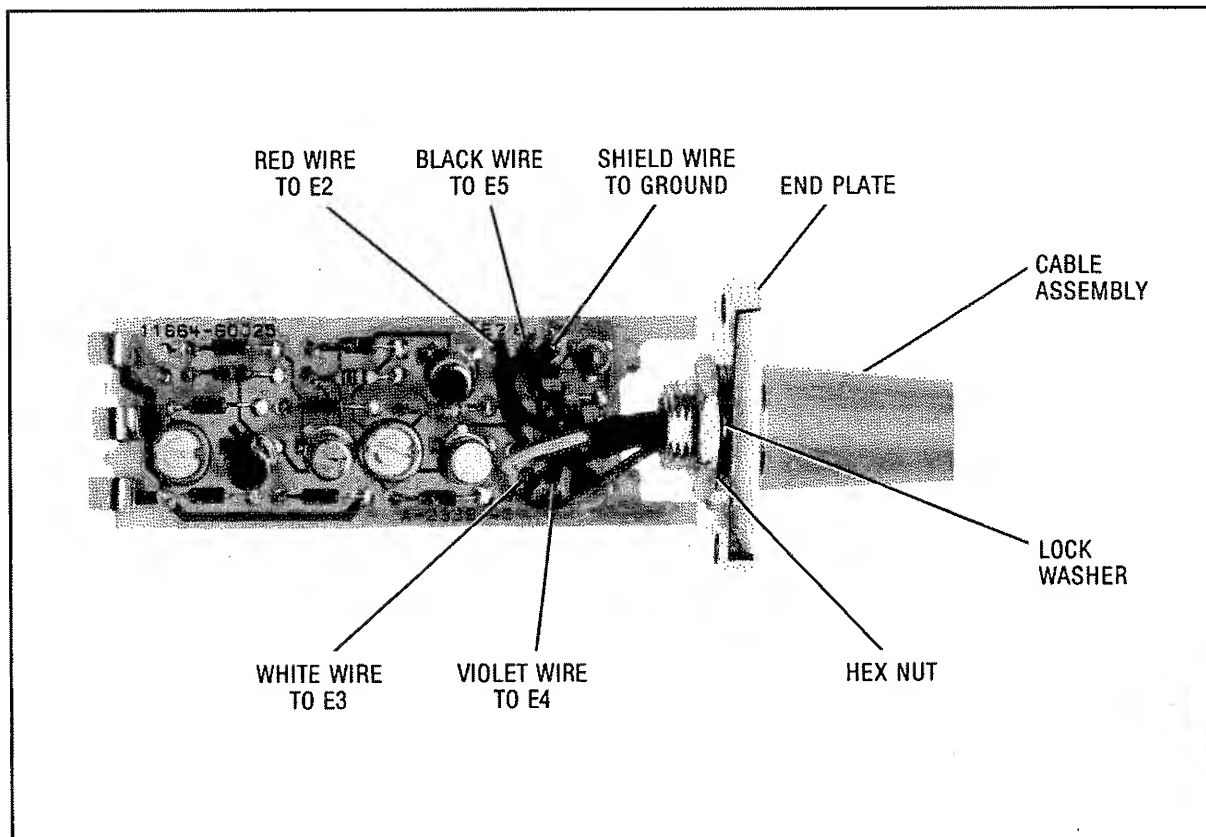

Figure 14. Cable Connections
6. Install wires of the replacement cable in the printed circuit board (refer to Figure 14 for proper placement).